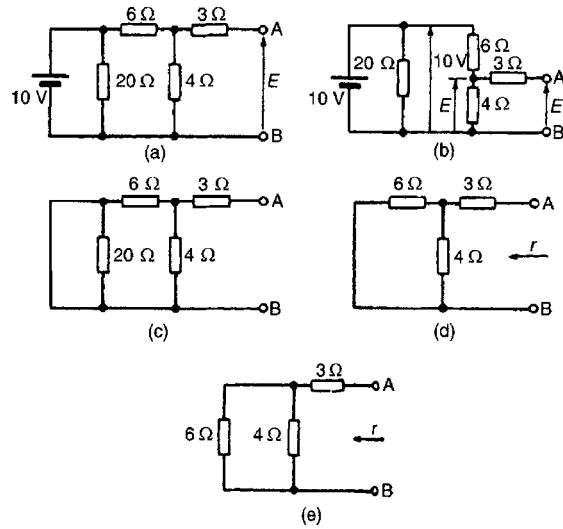

Figure 13.33
(v) For the circuit shown in Fig. 13.33(a), the  $3\Omega$  resistor carries no current and the p.d. across the  $20\Omega$  resistor is  $10\text{ V}$ . Redrawing the circuit gives Fig. 13.33(b), from which
- (vi) If the  $10\text{ V}$  battery in Fig. 13.33(a) is removed and replaced by a short-circuit, as shown in Fig. 13.33(c), then the  $20\Omega$  resistor may be removed. The reason for this is that a short-circuit has zero resistance, and  $20\Omega$  in parallel
with zero ohms gives an equivalent resistance of  $(20 \times 0)/(20 + 0)$  i.e.  $0\Omega$ . The circuit is then as shown in Fig. 13.33(d), which is redrawn in Fig. 13.33(e). From Fig. 13.33(e), the equivalent resistance across AB,